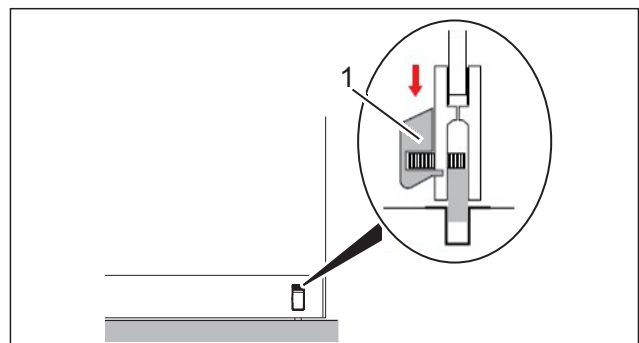

Fig. 11 Locking the face-mounted slide bolts
2. Push down both face-mounted slide bolts (Fig. 11/1) on the panel with your foot or hand.